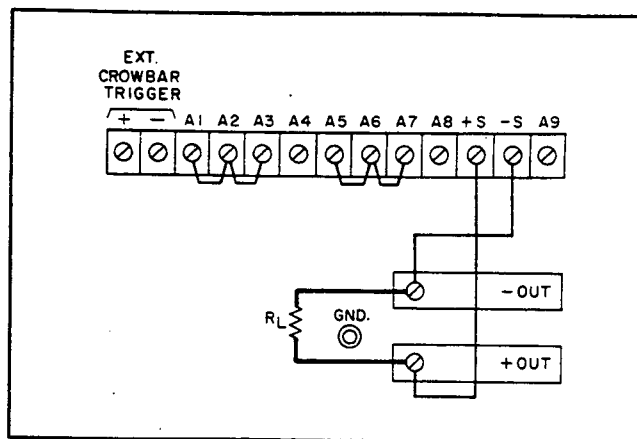

Figure 3-2. Normal Strapping Pattern
- a. Turn CURRENT controls (7) and OVERVOLTAGE ADJUST potentiometer (5) fully clockwise and check that rear panel straps are connected as shown in Figure 3-2, but do not connect load R_L .
- c. Set LINE switch or circuit breaker (1) ON and observe that pilot lamp (2) lights.
- d. Adjust COARSE and FINE VOLTAGE controls (3) for desired indication on voltmeter (4).
- e. Ensure that overvoltage crowbar circuit is operational by slowly turning OVERVOLTAGE ADJUST control (5) counterclockwise with a screwdriver until OVERVOLTAGE lamp (6) lights and voltmeter indication drops to zero volts.
g. To check the constant current circuit, first turn off the supply, connect a short across the output bus bars (see Figure 3-2), and turn it back on.
h. Adjust **COARSE** and **FINE CURRENT** controls ⑦ until ammeter ⑧ indicates desired output current or current limit. (The **VOLTAGE** controls must be set for a greater-than-zero output to obtain the output current programmed.)
3-7 This power supply was shipped with the proper rear panel strapping connections made for constant-voltage/constant-current operation with local sensing and local programming. This strapping pattern is illustrated in Figure 3-2. By means of the front panel voltage and current controls, the operator selects either a constant-voltage or a constant-current output. Whether the supply functions in the constant-voltage or the constant-current mode depends on the settings of the voltage and current controls and on the resistance of the output load. For values of load resistance greater than a critical crossover value equal to the voltage setting divided by the current setting, the supply operates in the constant-voltage mode. With a load resistance smaller than this critical value, it operates in the constant-current mode. The transition occurs automatically; no switches need to be operated or connections changed.
3-28 Because of the unavoidable voltage drop developed in the load leads, the normal strapping pattern shown in Figure 3-2 will not provide the best possible voltage regulation at the load. If, for example, one were to use 4-gauge wire to connect a load that is located only 5 feet from a
The +S jumper is the one that links the +S terminal to the +OUT terminal when the supply's terminals are strapped for normal operation as shown in Figure 3-2. The -S jumper is the one that links the -S terminal to the -OUT terminal.